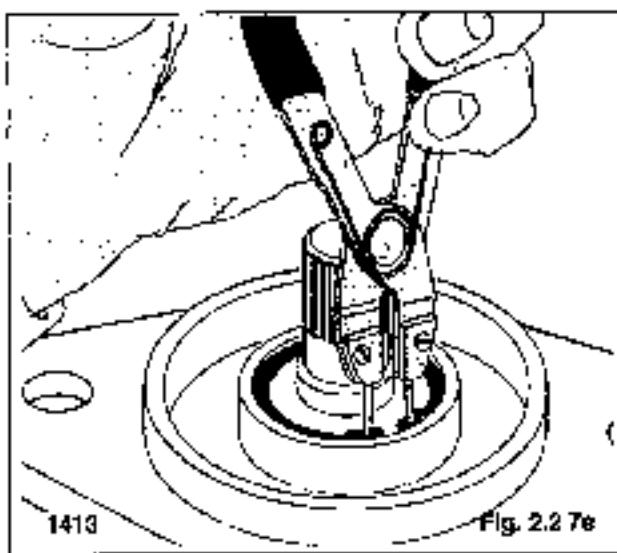

Fig. 2.2.7e
5. Install the shaft seal spacer washer and a new shaft seal in the housing. Secure in place with the retaining ring (fig. 2.2.7e).